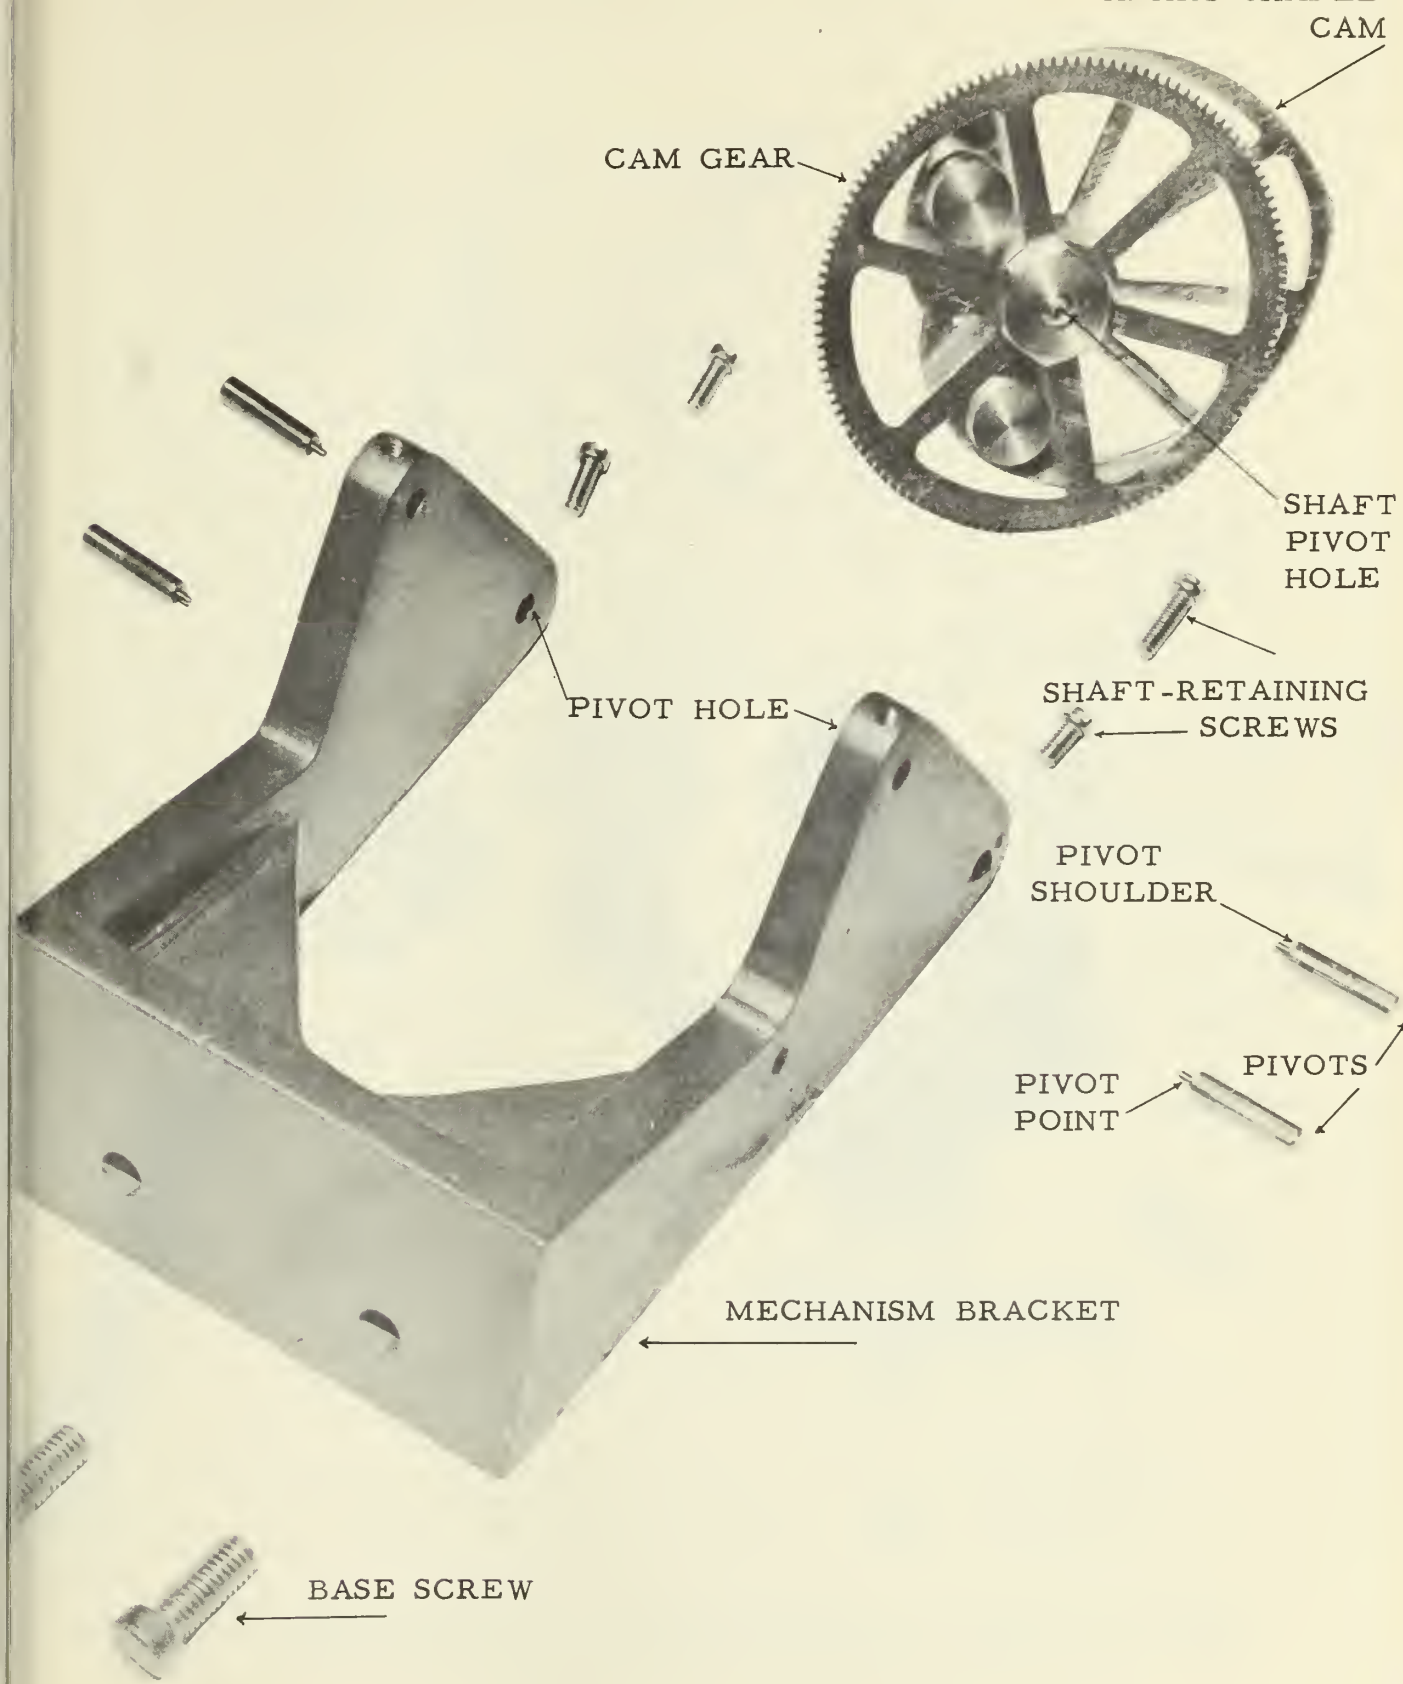

Figure 5. --Type A. Mechanism bracket and cam gear, detail of parts.
19. Mechanism bracket (figs. 5 and 6):
20. Cam gear and heart-shaped cam (figs. 5 and 6):